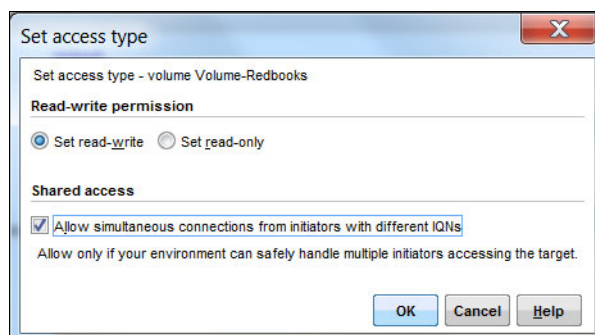

Figure 14-24 Enabling simultaneous access
4. Select the **Allow simultaneous connections from initiators with different IQNs** check box and click **OK**, as shown in Figure 14-24.